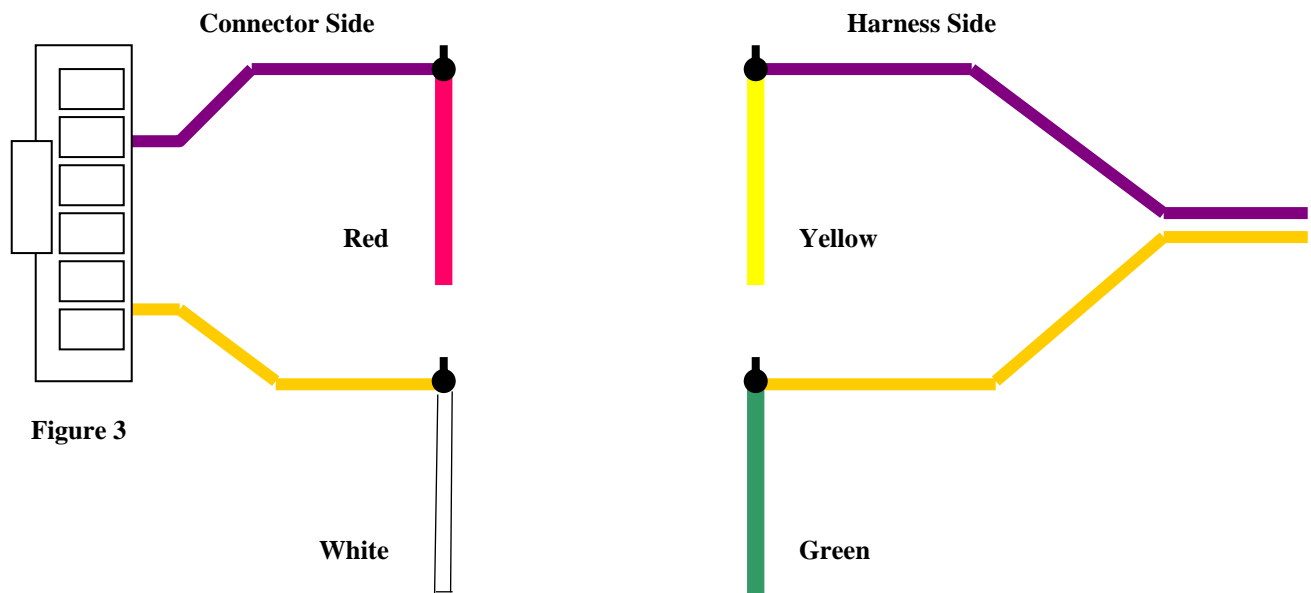

Figure 3
1. Use the diagram and chart below to install the pedal interface harness. Disconnect the Pedal Interface Harness at the 2-pin connectors to ease installation of solder connections. Cut the selected wires at the accelerator harness leaving at least 2 inches of harness from the connector. Solder the wire ends from the pedal interface harness to the accelerator pedal harness according to each wire color listed in chart. **After soldering, wrap the exposed wires with electrical tape. Figure 3.**